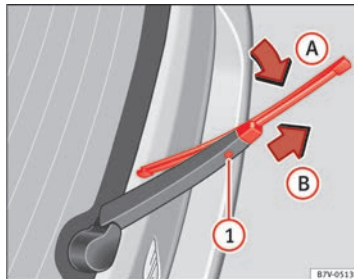

Fig. 117 Changing the rear wiper blade
- Lift the windscreen wiper arm and fold it at an angle of approximately 60° ⇒ Fig. 117.
- Press and hold the release button ①.
- Fold the wiper blade towards the windscreen wiper arm ⇒ Fig. 117 (arrow A) while simultaneously pulling in the direction of arrow B). This may require some strength. ▶
- Insert a new blade of the **same length and type** in the windscreen wiper arm in the opposite direction to the arrow (B) and hook into place. This feature is operational when the blade is in position (arrow (A)).